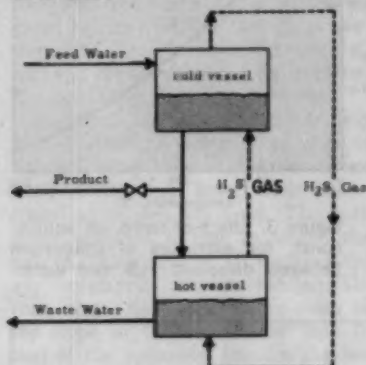

Figure 4. The principle of dual-temperature separation. (Schematic).
of a system of two vessels through which  $H_2S$  gas is circulated in series, countercurrent to a stream of water. The arrangement is shown in Figure 4. In this simplified illustration gas is bubbled through one pool of liquid in each vessel. Secondary considerations of humidity and solubility are ignored, but it should be noted that hydrogen sulfide is soluble in water and is free to enter and leave the liquid phase so that HDS can transfer and reach equilibrium between gas and liquid phases. The system will approach a steady state with the pools of liquid in equilibrium with the gas stream at their respective temperatures. Equation (2) can be rewritten,
If no product is removed from the system by way of the product stream (Figure 4), the concentration in the